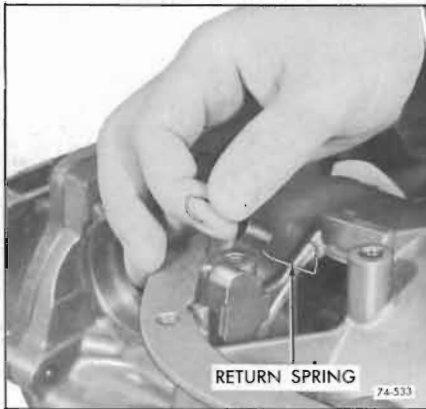

Figure 74-533
g. Remove parking pawl return spring. See Figure 74-533.